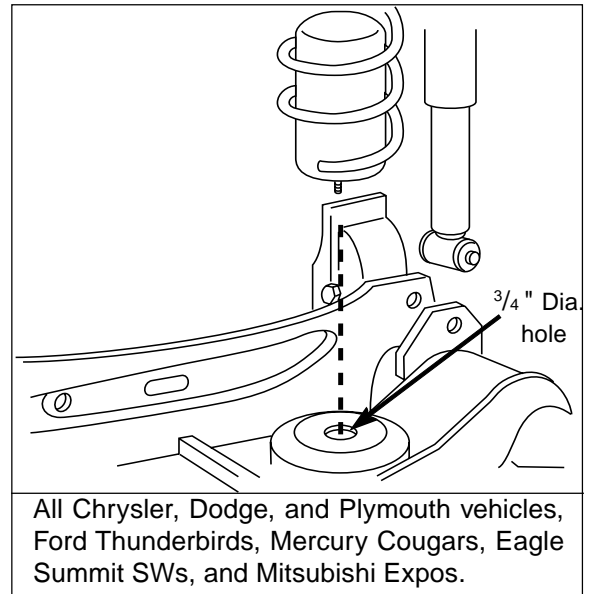

Figure 1
Multiple Applications – See special notes and Figures 1, 2 and 3 for your particular vehicle.
- (3) Stick the template on the underside of the lower spring seat with a dab of grease.
- (4) Centerpunch and drill $\frac{3}{4}$ " diameter hole. Remove all burrs and sharp edges (Figure 1).
- (6) Insert air cylinder into coil spring with stem at bottom. Push the cylinder up within the coil by hand or with a blunt instrument such as a spoon-type tire iron.
- (7) When the cylinder is completely within the coil, remove the cap and allow the cylinder to assume its "as molded" shape. For Thunderbirds or Cougars skip to step (9), otherwise continue on to step (8)
- (8) For Chrysler, Dodge, or Plymouth: With the air cylinder stem down (Figure 1) install coil springs into spring seats and rotate to proper location. Attach lower shock absorber attaching bolts. Torque to 25 ft-lbs.
- (9) Continue with air line installation on pages 2-4.
- (1) Increase the diameter of the hole in the lower spring seat to $\frac{3}{4}$ " diameter. Remove all burrs and sharp edges.
- (2) Insert air cylinder into coil spring with barbed stem towards the bottom. Push the cylinder up within the coil by hand or with a blunt instrument such as a spoon-type tire iron (Figure 1).
- (3) When the cylinder is completely with in the coil, remove the cap and allow the cylinder to assume its "as molded" shape.
- (4) Continue with air line installation on pages 2–4.